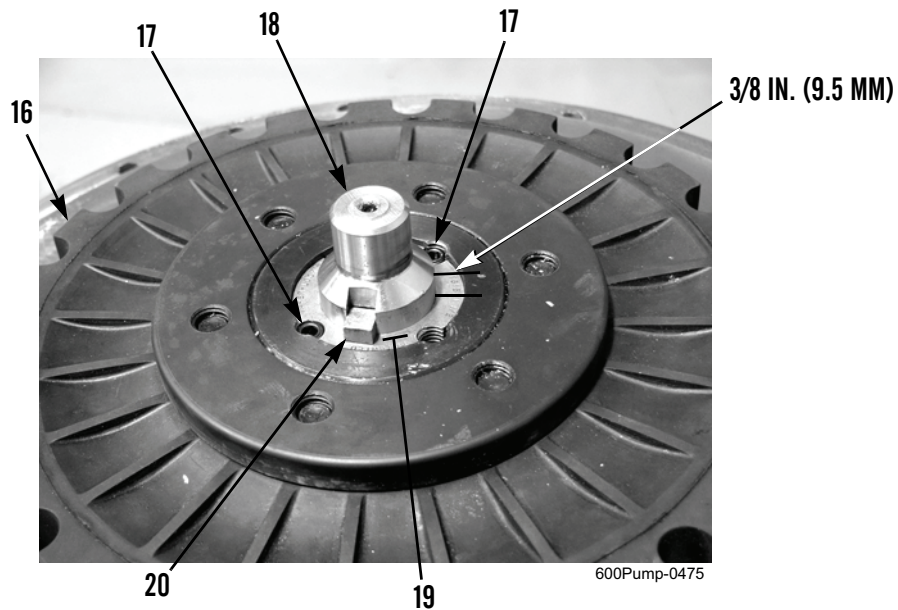
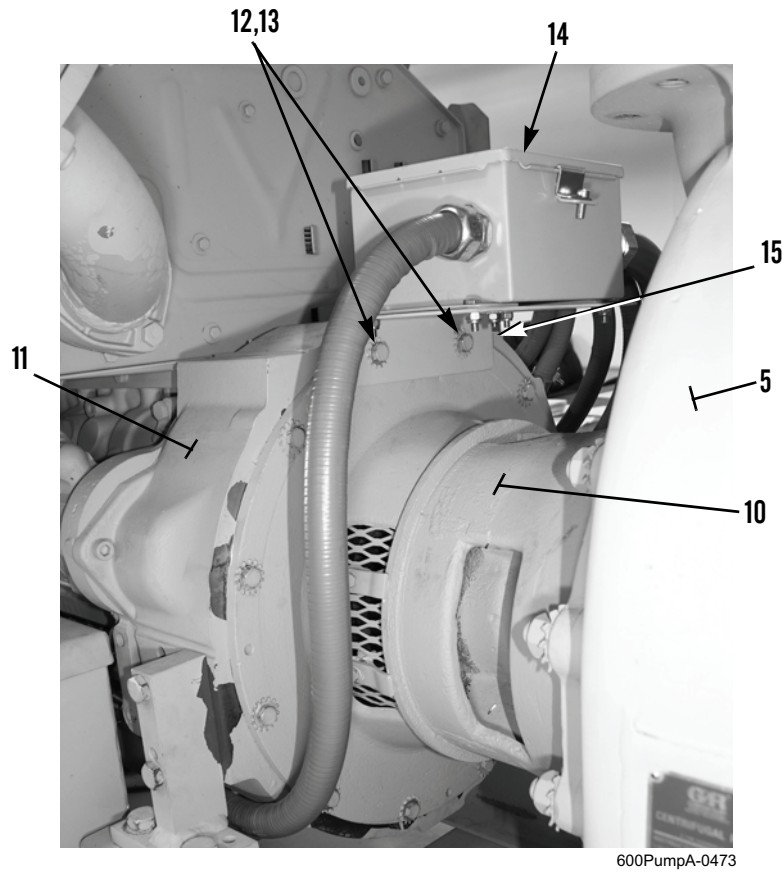

Figure 7. Installing Flexible Coupling on Impeller Shaft.
Figure 9. Intermediate Housing at Engine Flywheel Housing.
3. To install flexible coupling (Figure 7, Item 16) on impeller shaft (Figure 7, Item 18):
- a. Install impeller shaft key (Figure 7, Item 20) in slot of impeller shaft (Figure 7, Item 18).
- b. Assemble bushing (Figure 7, Item 19) inside flexible coupling (Figure 7, Item 16) and loosely install two setscrews (Figure 7, Item 17).
- c. Align keyway in bushing (Figure 7, Item 19) with impeller shaft key (Figure 7, Item 20) and position flexible coupling (Figure 7, Item 16) on impeller shaft (Figure 7, Item 18). Ensure capscrew heads in metal part of flexible coupling are positioned toward pump end of shaft.
- d. Tap assembly onto impeller shaft (Figure 7, Item 18) until it is positioned approximately 3/8 in. (9.5 mm) from end of chamfer on shaft.
- e. Tighten two setscrews (Figure 7, Item 17) in an alternating sequence until bushing (Figure 7, Item 19) and coupling are fully secured. Apply final torque of 175 lb-in. (19.8 Nm).
- To assist in installation, lightly lubricate flexible coupling (Figure 7, Item 16) with glycerin.
- Lift intermediate housing (Figure 9, Item 10) and casing of pump (Figure 9, Item 5) and place on chassis of trailer. Align assembly with engine flywheel housing (Figure 8, Item 11) so that flexible coupling (Figure 7, Item 16) seats inside outer ring (Figure 8, Item 21) at engine flywheel. Rotate impeller shaft as needed to assist in mating parts together.
7. Cut tiedown strap and reposition junction box mounting bracket (Figure 9, Item 15) with junction box (Figure 9, Item 14) at intermediate housing (Figure 9, Item 10).
8. Loosely install 12 new T-type lockwashers (Figure 9, Item 13) and capscrews (Figure 9, Item 12) on intermediate housing (Figure 9, Item 10) and engine flywheel housing (Figure 9, Item 11). DO NOT fully tighten capscrews.
- Alternately and evenly, tighten 12 capscrews (Figure 9, Item 12) to 30 lb-ft (41 Nm). Fully tighten two locknuts (Figure 10, Item 6).